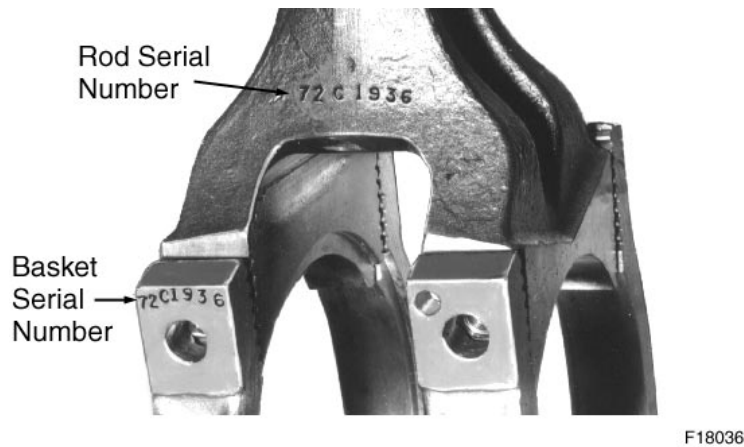

Figure 5-18. Rod And Basket Identification
44. Be sure that the serial number on the basket matches the serial number on the connecting rod, Figure 5-18.